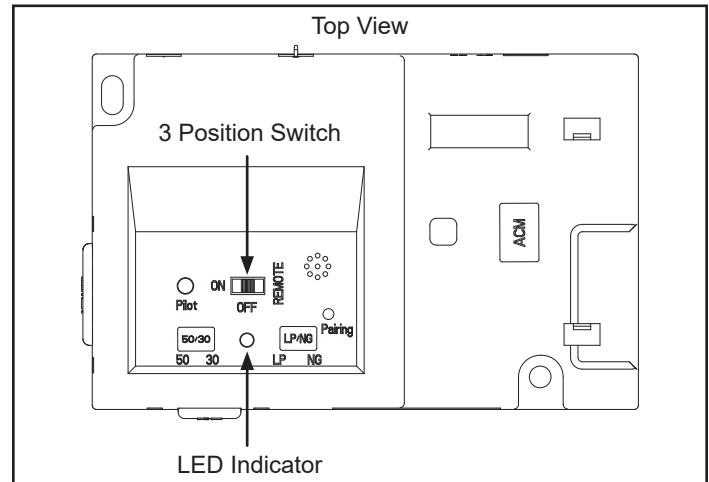

Figure 4.5 - IFT-ECM
The IntelliFire™ Touch intermittent pilot ignition system comes with a battery backup system that enables the system to operate in a power outage. The system offers seamless transition from household AC power to battery backup. A factory-installed battery pack is located in the control cavity of the appliance. See Figure 4.5. Battery longevity and performance will be affected by long term exposure to the service temperatures of this appliance.
1. The Electronic Control Module (IFT-ECM) has a three-position ON/OFF/REMOTE selector switch that must be set for proper operation, Figure 4.5. When changing switch positions, it is important to pause in each position for 1-2 seconds.